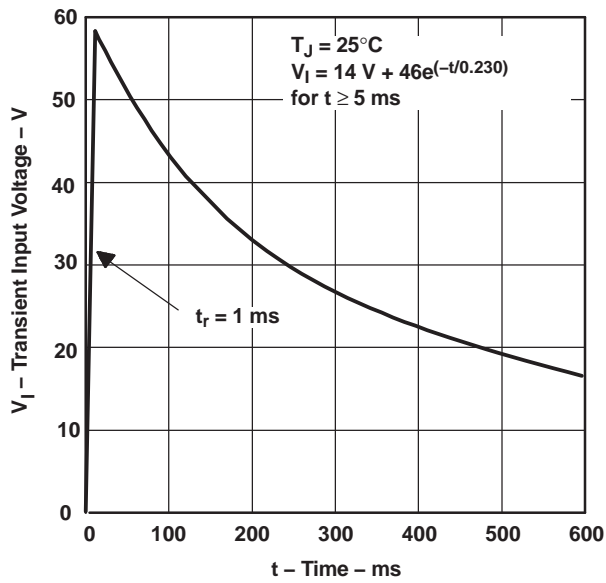

Figure 4.
Transient input voltage (see Figure 4)	60 V
- (1) Pulse-testing techniques maintain the junction temperature as close to the ambient temperature as possible. Thermal effects must be taken into account separately. All characteristics are measured with a 0.1- μF capacitor across the input and a 10- μF tantalum capacitor on the output, with equivalent series resistance within the guidelines shown in Figure 4.
- (2) Measured when the output voltage, V_O , has dropped 100 mV from the nominal value obtained at $V_I = 14\text{ V}$